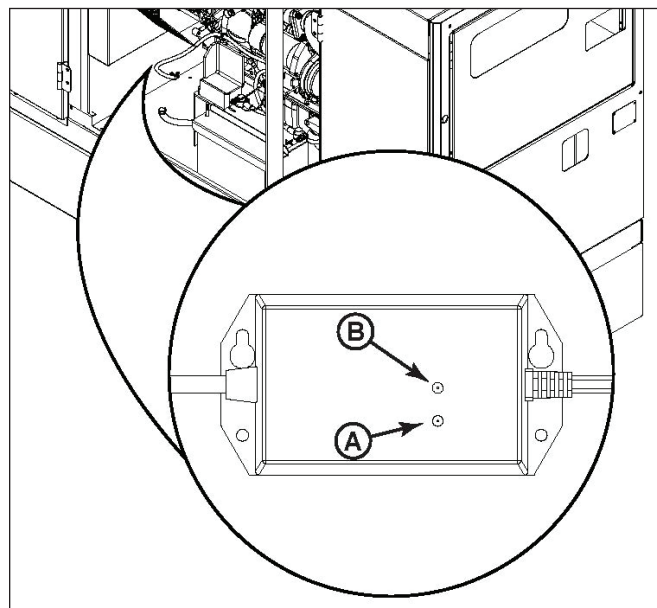

Figure B3
3. The red light (A, Figure B3) on the battery charger module, located in the left front section of the engine compartment (see Figure B3) indicates the battery is charging. The green light (B) indicates full charge. (The battery charger can stay plugged in after the battery reaches full charge without damaging the battery.)